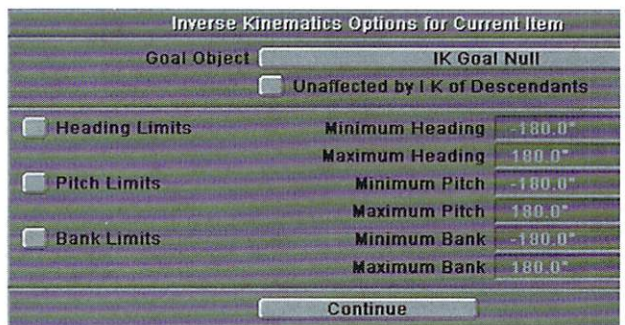

Figure 15: Selecting the goal object for the vent.
- Return to the VentInner.lwo object and click IK Opts (I). For the Goal Object, select IK Goal Null (Figure 15).